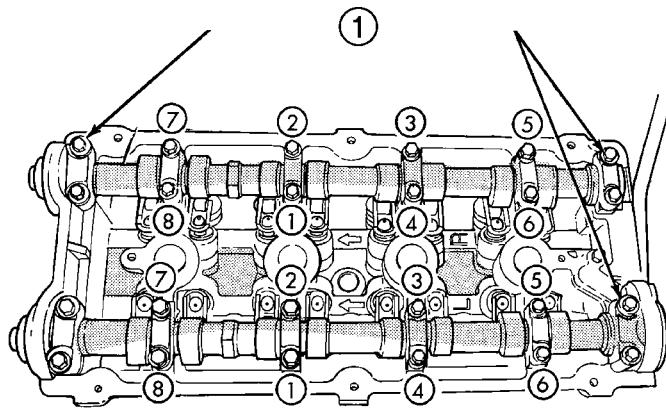

Fig. 26 Camshaft Bearing Cap - Removal
(6) Loosen the camshaft bearing cap attaching fasteners in sequence shown (Fig. 26) one camshaft at a time.